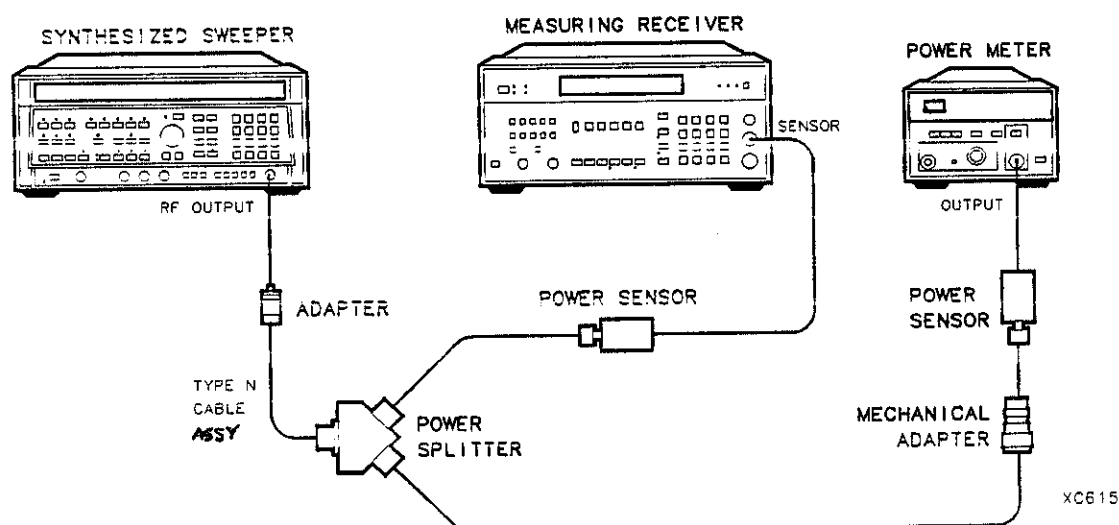

Figure 1-16. System Characterization Test Setup for Option 001
4. Connect the equipment as shown in Figure 1-16.